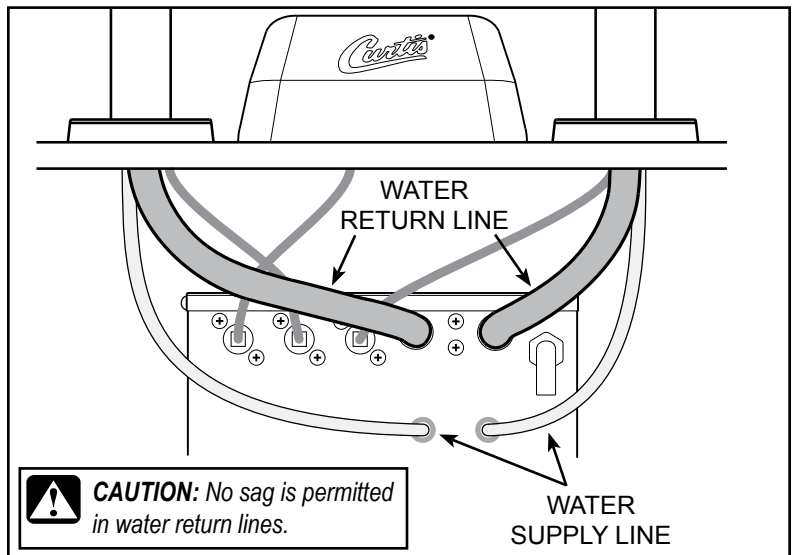

Figure 8 - Back View Showing Supply and Return Line Routing
**CAUTION:** The water return lines must not sag. Route them in a downhill orientation between the bottom of the brew head assemblies and the back of the water tower (see Figure 8). The tubing can be shortened if necessary to make sure that the lines are free of sag that will trap water inside them between the brew heads and the water tower.